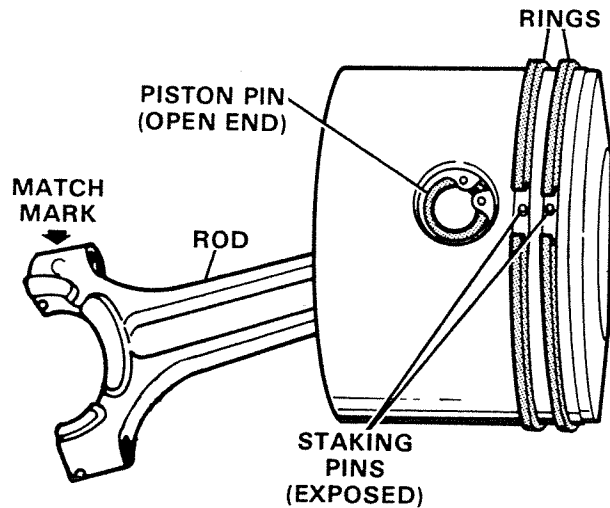

Figure 26. Assembling Piston to Connecting Rod.
- C. Hold piston so that staking pins face up. Figure 26.
- D. Insert connecting rod into piston so that match mark will face up toward support plate. Figure 26.
- F. Install new piston pin retaining rings. Figure 26.
- G. Install piston rings. Special Tool No. T 8926, piston ring expander. Rings must not cover staking pins in piston. Figure 26.